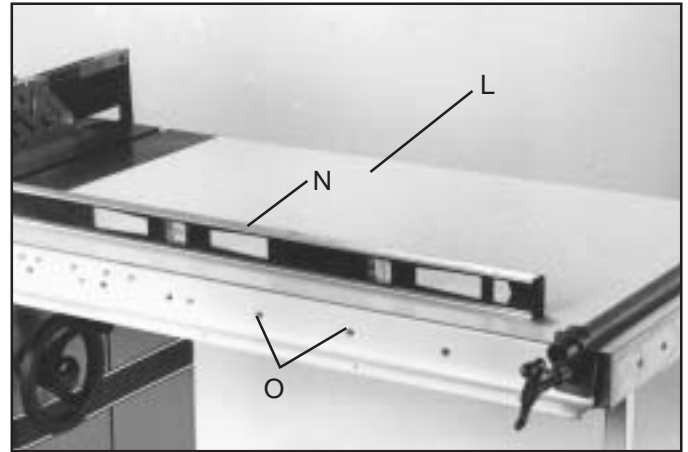

Fig. 20
12. Place table assembly (L) in position between the front and rear rail, as shown in Fig. 20. Make sure end of table is flush against saw table and using a bar clamp, snug up ends of rails to hold table in position. Using a straight edge, (N), make certain table is in the same plane and level with saw table. Adjust leveling screws in bottom of support legs to accomplish this. When you are certain table is level and in the same plane as the saw table, tighten bar clamp to hold everything in position. Then drill 1/4" through holes through the front and rear table frame using holes (O) in the rail as a template. The number of holes to drill will depend on the length of the rails.